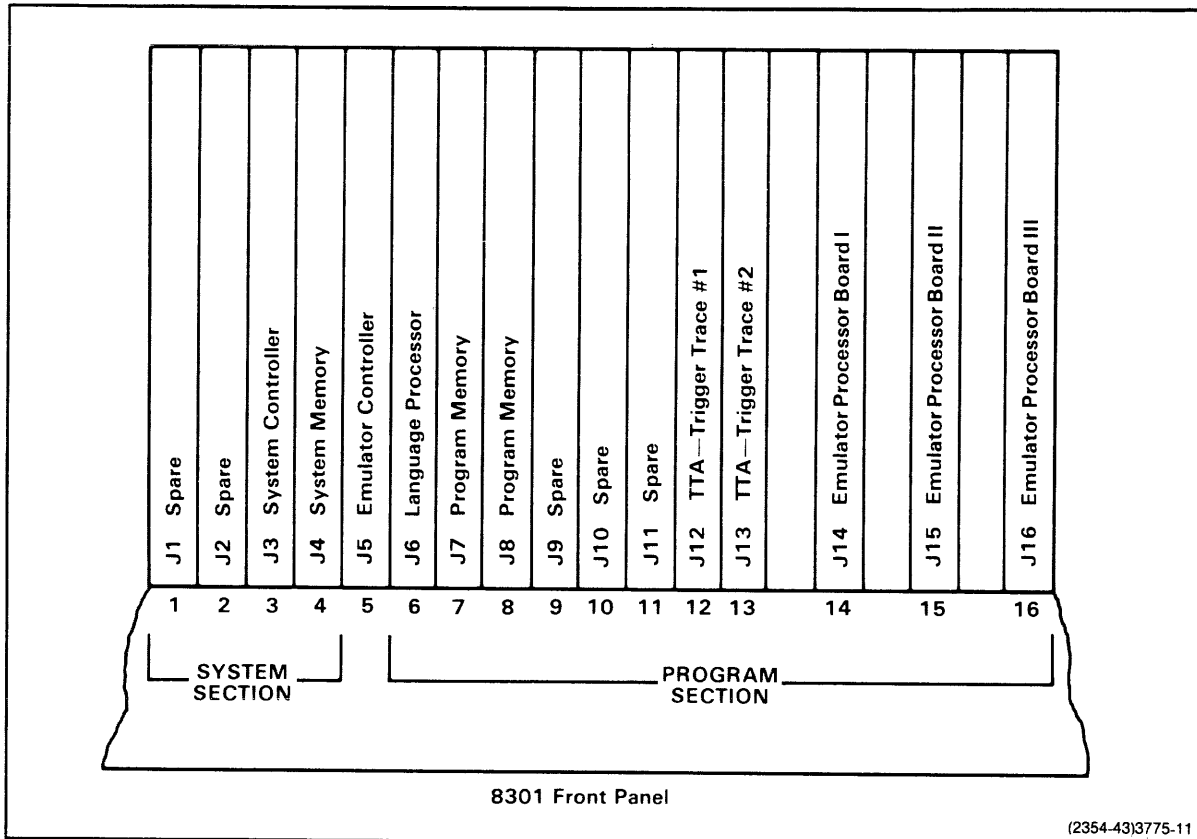
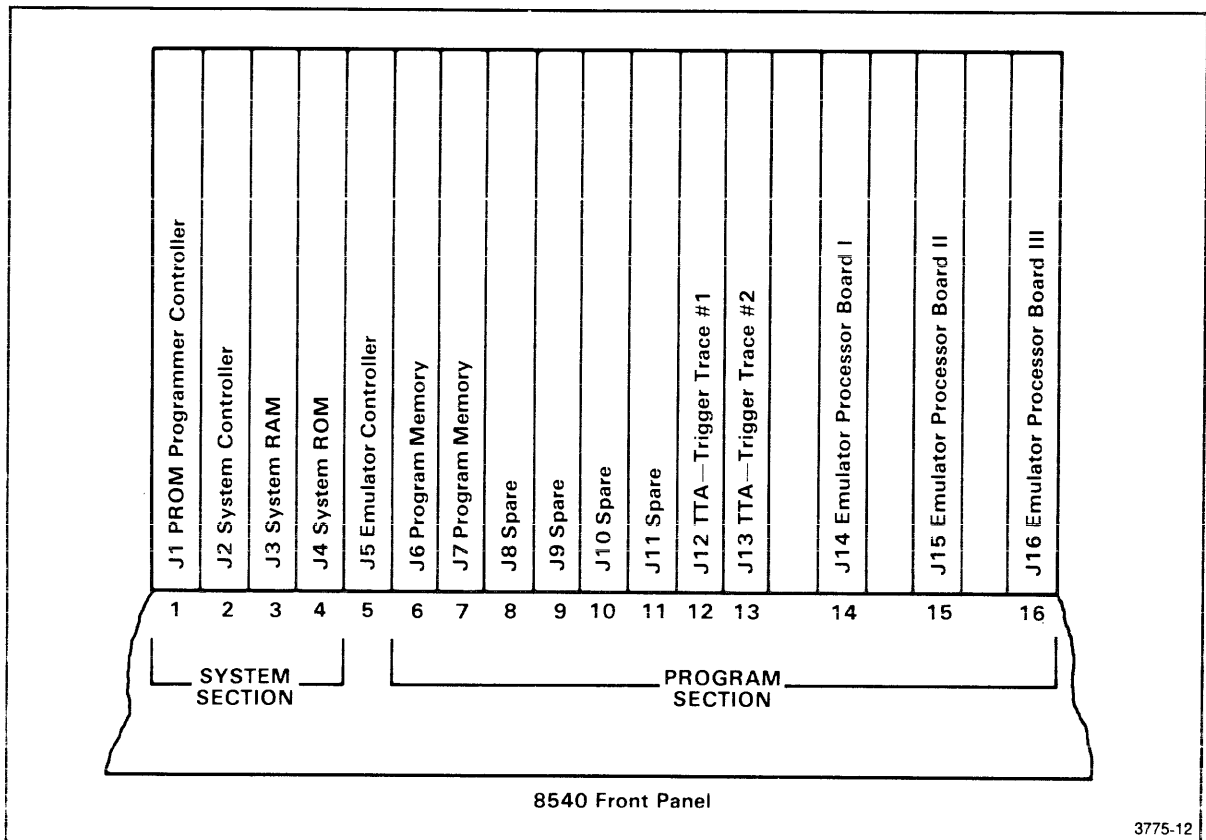

Fig. 6-3. Recommended board arrangement for the 8301.
Fig. 6-4. Recommended board arrangement for the 8540.
7. While holding all three boards, guide Board I into the vertical channel to J14 on the Main Interconnect Board. Next, guide Board II into the vertical channel to J15, then guide Board III into the vertical channel to J16. Refer to Fig. 6-3 (if your development system is an 8301 MDU) or Fig. 6-4 (if your system is an 8540 IU).